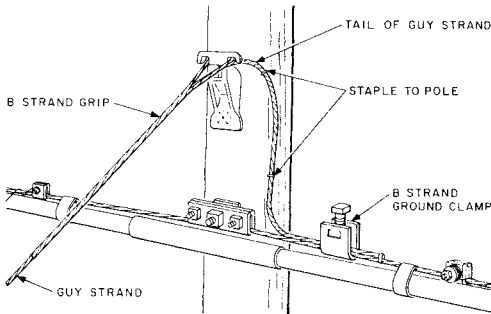

Fig. 13—Guy Tail Connected to Strand
3.07 Connect the guy to the suspension strand as shown (Fig. 13) when using the tail of a guy to make the electrical connection between guy and strand for lashed or ring supported cable.